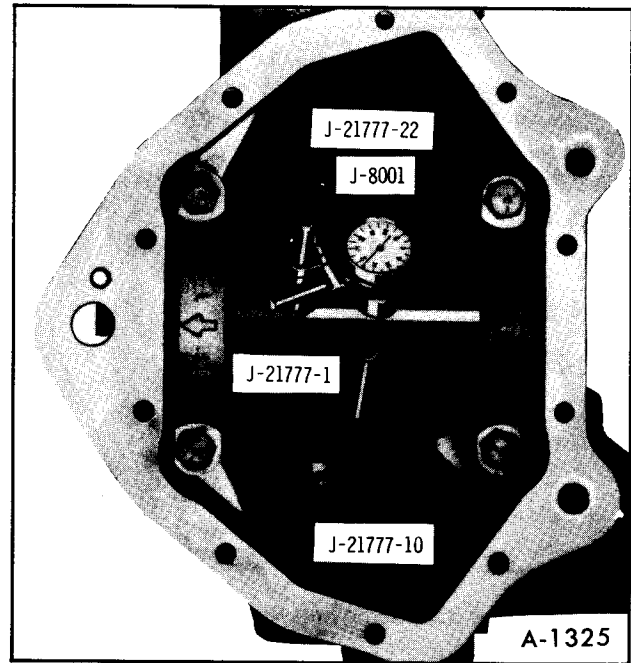

Figure 37—Pinion Depth Gauge Tool Installation
4. Remove dial indicator post from Tool J-21777-1 and install Discs J-21777-22 as shown in Figure 37. Reinstall dial indicator post.